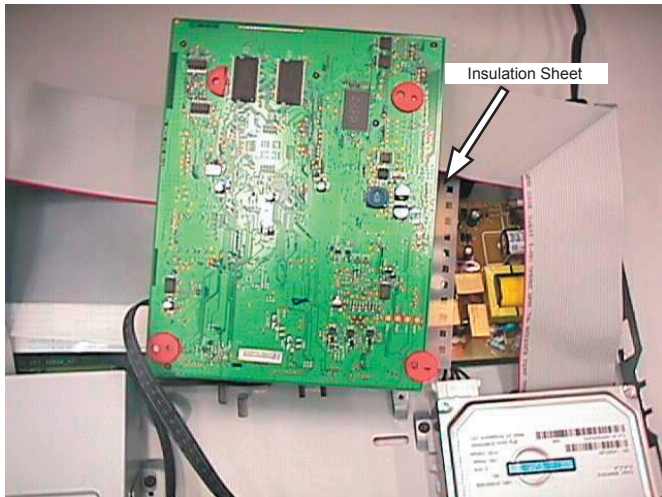

Figure 4-6: Digital Board Service Position
2) Service position for Digital Board is given in Figure 4-6.